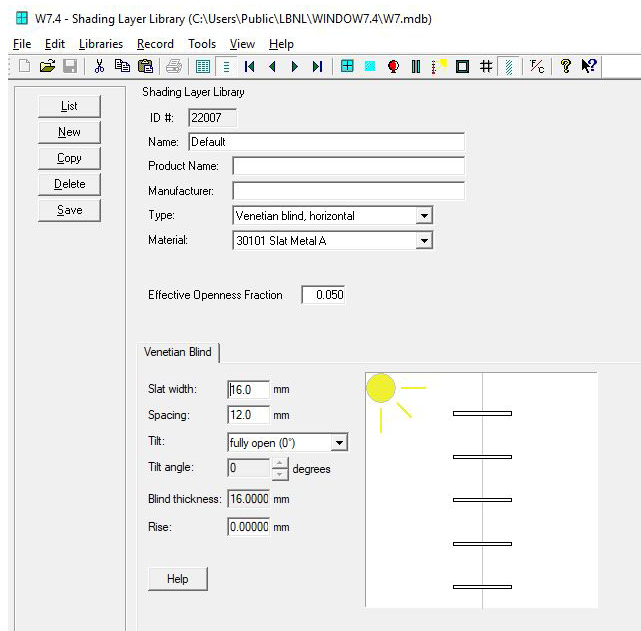

Figure 3: New Shading Layer Record.
3. The new record you just created will show on the last line in the list. Double click on it and a new window will open up. See figure 3.